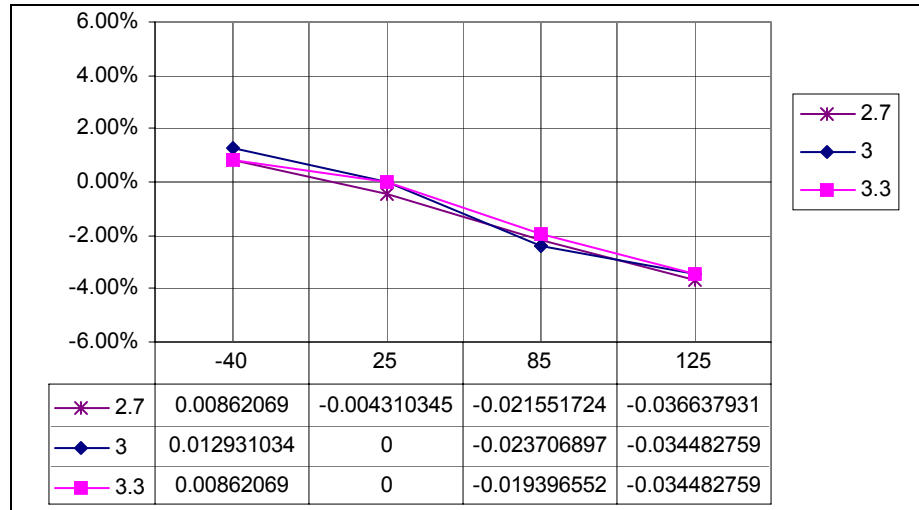
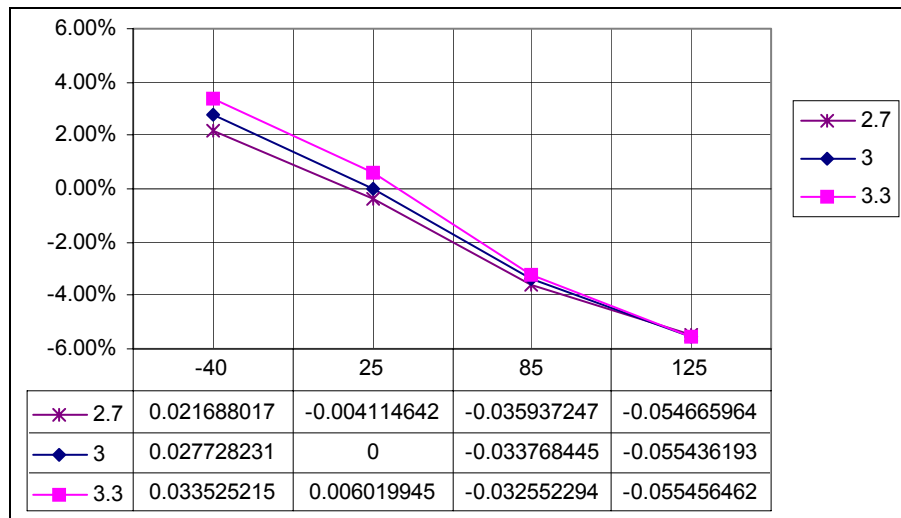
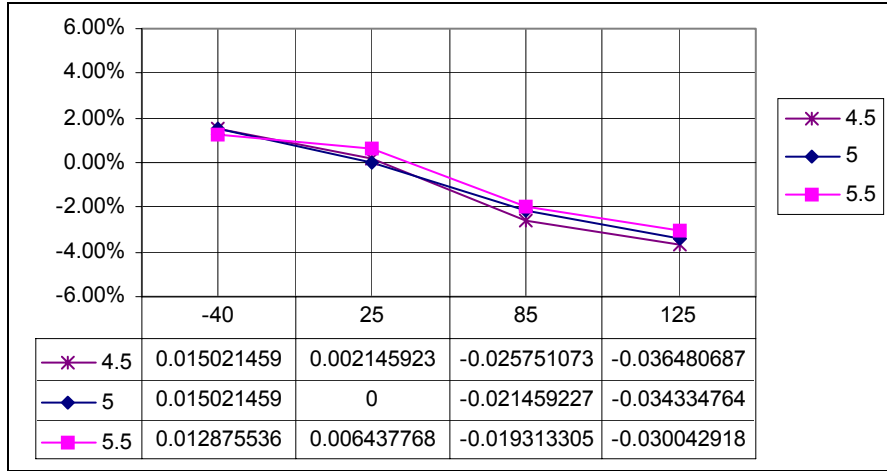
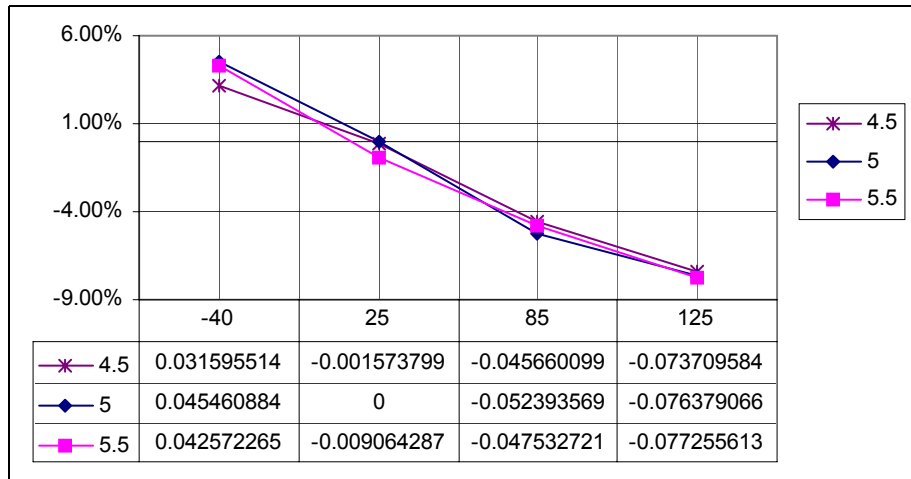

Figure 17-1. Example of Frequency Variation Across Temperature, Trimmed at Nominal 3 Volts, 25°C, and N = 1
Figure 17-2. Example of Frequency Variation Across Temperature, Trimmed at Nominal 3 Volts, 25°C, and N = 104
Figure 17-3. Example of Frequency Variation Across Temperature, Trimmed at Nominal 5 Volts, 25°C, and N = 1
Figure 17-4. Example of Frequency Variation Across Temperature, Trimmed at Nominal 5 Volts, 25°C, and N = 104
Figure 17-1 through Figure 17-4 illustrate typical performance. The formula for this variation of frequency is (measured-nominal)/nominal. Figure 17-1 shows the variation in ICG frequency for a part trimmed at nominal voltage and temperature across V_{DD} and temperature for a 3-V application with multiply register (N) set to 1. Figure 17-2 shows 5 V.
Figure 17-3 and Figure 17-4 shows N set to 104, hex 68, which corresponds to an ICG frequency of 31.9 MHz or 7.9 MHz bus.